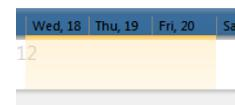
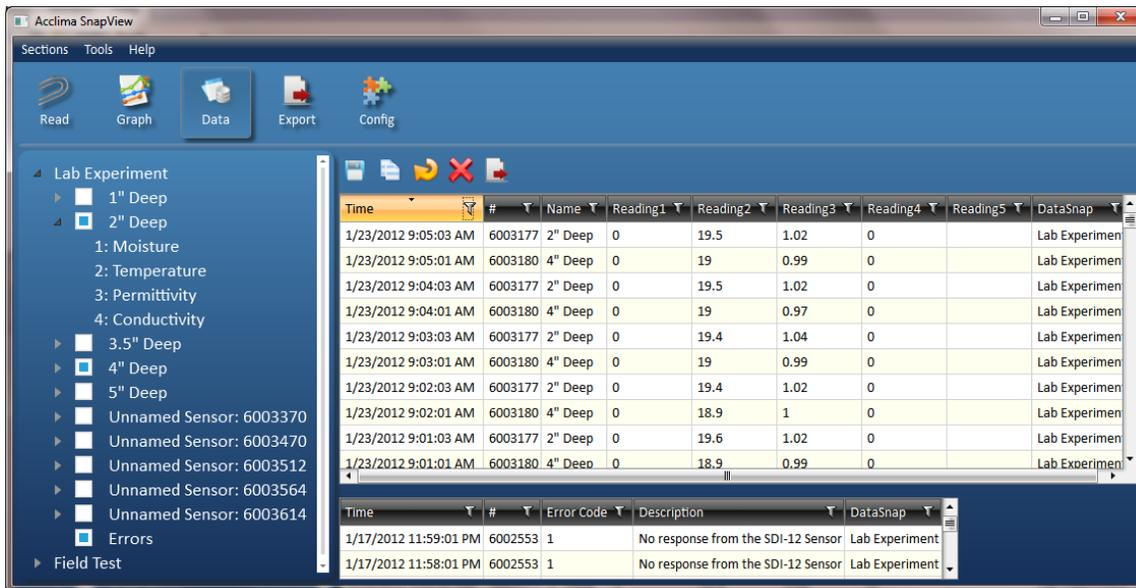

Figure 20 - Selecting Multiple Days in the Time Bar
Figure 23 – Data in Grid View
- Click the 'Read' button to read each selected sensor. The sensor's name, serial number, reading time and measurement data is displayed. If a configured sensor is not attached to the DataSnap, an error is displayed. Notice in figure 20, the sensor named '2" Deep' had an error.
To select a single day, click on the date in the blue region at the top of the time bar **Thu, 12** **Fri, 13**. As an example, figure 23 shows that Thursday January 19, 2012 has been selected. To select multiple full days, left click on a date and while holding down the left mouse button, drag to another date and release the button. The selection range will be highlighted in yellow as the mouse is dragged. The selection window will now change to the range that was selected. As an example, Figure 20 shows how the time bar would look while clicking 'Wed, 18' and dragging to 'Fri, 20'. Once the mouse is released, the range selection window will move and the main graph will display data for the three selected days.
In figure 23, two sensors have been selected. Those sensors are named '2" Deep' and '4" Deep'. Their data is displayed in the grid to the right, sorted chronologically. The '2" Deep' sensor has been expanded to show the names of its readings. The errors have also been selected and are displayed.